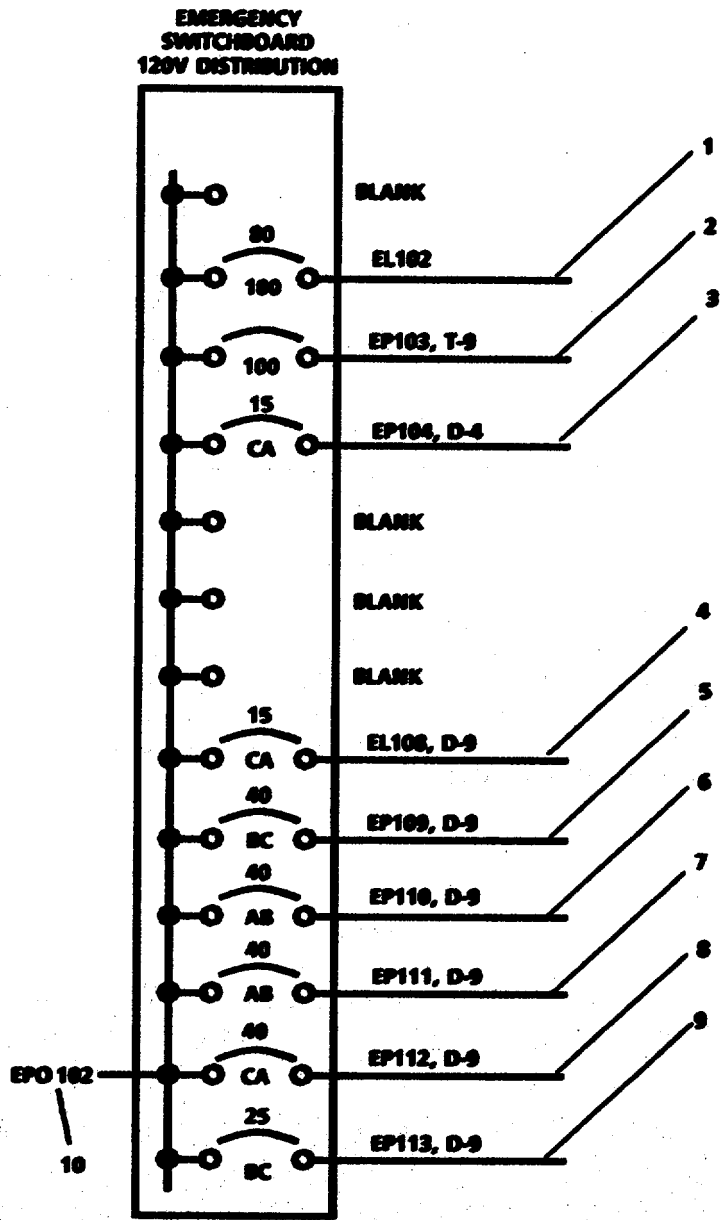

FIGURE 3-158. Power Distribution Panel EL102.
**3-173. Repair Power Distribution Panel EL102. (Figure 3-158)**